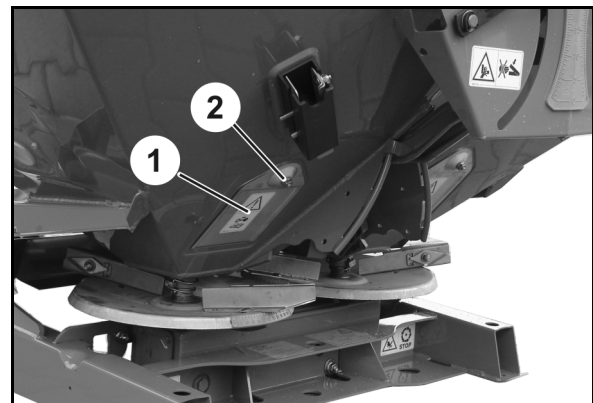

Fig. 85
The ZA-X is equipped with 2 emptying flaps (Fig. 85/1).
2. Unscrew the nuts (Fig. 85/2).